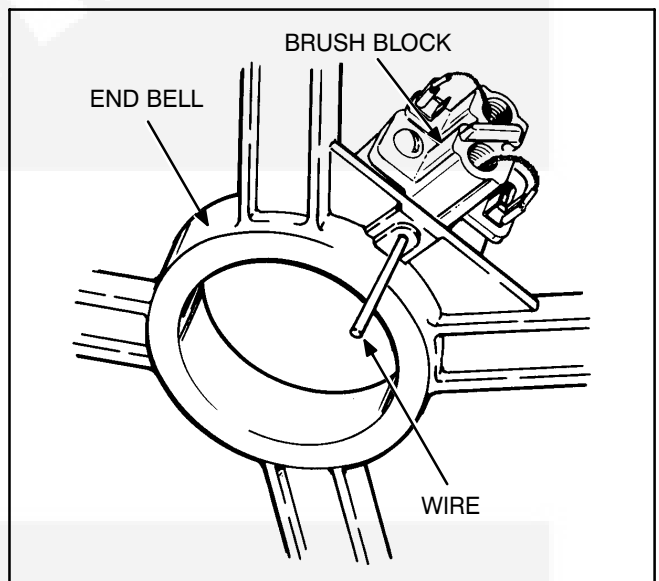

FIGURE 9-8. BRUSH BLOCK
11. Prepare the brushes for endbell removal. Disconnect wire harness leads from brush block and pull each brush outward from the holder and at the same time insert a piece of wire into the small hole in the endbell at bottom of brush block. See Figure 9-8. Carefully guide the wire through the brush block and then release each brush. Verify that each brush is held off the slip rings by the wire.
6. Prepare endbell for installation. Place springs on studs and lubricate O-ring. Verify that brushes are held in holder with piece of wire. See Figure 9-8. Install endbell onto rotor bearing and secure with endbell mounting screws.
3. Pull each brush outward from brush holder and insert a stiff wire through the small hole in the base of the holder. See Figure 9-8. The wire holds the brushes off the slip rings during assembly.